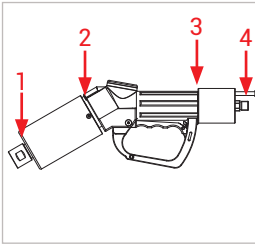

Figure 21
- ▶ Check the following measuring points (*Figure 21*)
- WEH® Service receptacle (1)
- impact protection sleeve and hand grip (2)
- Swivel joint and hand grip (3)
- Fitting (4)